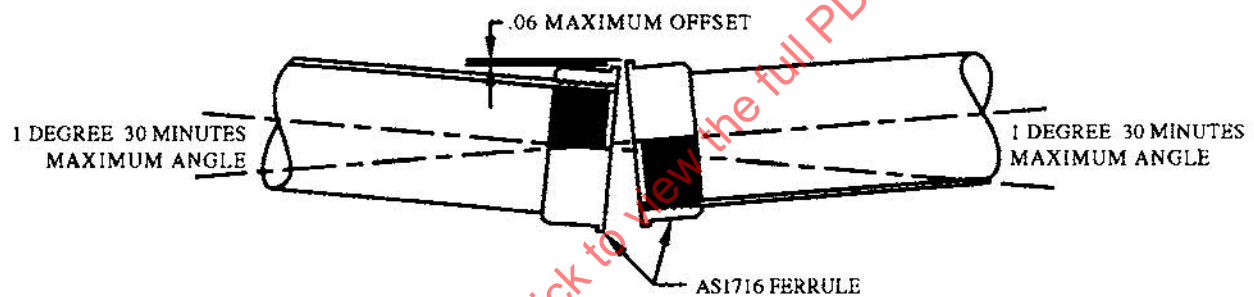

FIGURE 3 - Alignment of Tube Ends
- Prior to assembly of coupling components, verify that axial alignment of the duct ends is within $1^{\circ} 30 \text{ min}$, as illustrated in Figure 3.
- a. Prior to assembly of coupling components, verify that axial alignment of the tube ends is within 1° 30 min, and .06 maximum offset as illustrated in Figure 3.